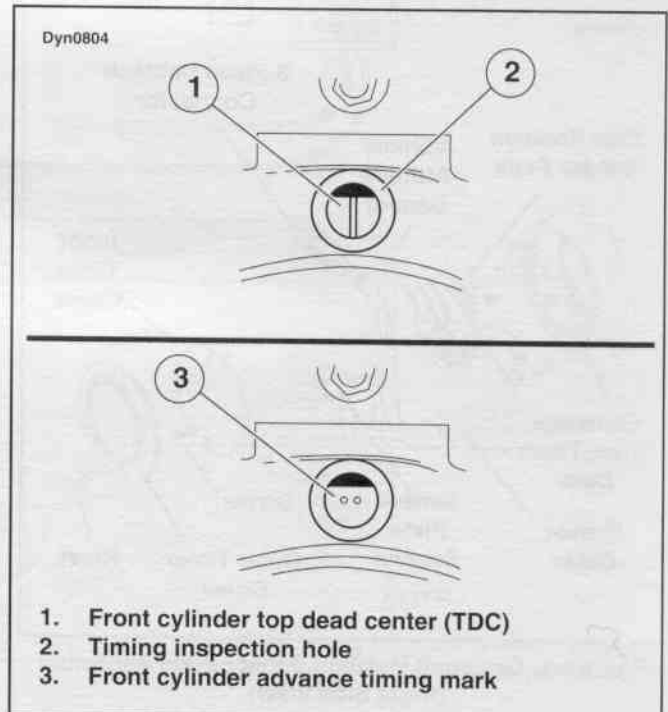

Figure 8-4. Ignition Timing Mark
11. Rotate rear wheel until TDC mark (vertical line) is centered in timing inspection hole. See upper frame of Figure 8-4.